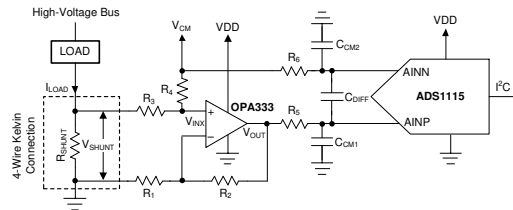

图 9-6. Low-Side Current Shunt Monitoring
Shunt-based, current-measurement solutions are widely used to monitor load currents. Low-side, current-shunt measurements are independent of the bus voltage because the shunt common-mode voltage is near ground. 图 9-6 shows an example circuit for a bidirectional, low-side, current-shunt measurement system. The load current is determined by measuring the voltage across the shunt resistor that is amplified and level-shifted by a low-drift operational amplifier, OPA333. The OPA333 output voltage is digitized with ADS1115 and sent to the microcontroller using the I2C interface. This circuit is capable of measuring bidirectional currents flowing through the shunt resistor with great accuracy and precision.
1. To level-shift the ground-referenced signal to allow bidirectional current measurements while running off a unipolar supply. The voltage across the shunt resistor, VSHUNT, is level-shifted by a common-mode voltage, VCM, as shown in 图 9-6. The level-shifted voltage, VINX, at the noninverting input, is given by 方程式 5.
A shunt resistor ( $R_{SHUNT}$ ) is an accurate resistance inserted in series with the load as shown in 图 9-6. If the absolute voltage drop across the shunt,  $|V_{SHUNT}|$ , is a larger percentage of the bus voltage, the voltage drop can reduce the overall efficiency and system performance. If  $|V_{SHUNT}|$  is too low, measuring the small voltage drop requires careful design attention and proper selection of the ADC, operation amplifier, and precision resistors. Make sure that the absolute voltage at the shunt terminals does not result in violation of the input common-mode voltage range requirements of the operational amplifier. The power dissipation on the shunt resistor increases the temperature because of the current flowing through the resistor. To minimize the measurement errors resulting from variation in temperature, select a low-drift shunt resistor. To minimize the measurement gain error, select a shunt resistor with low tolerance value. To remove the errors caused by stray ground resistance, use a four-wire Kelvin-connected shunt resistor, as shown in 图 9-6.